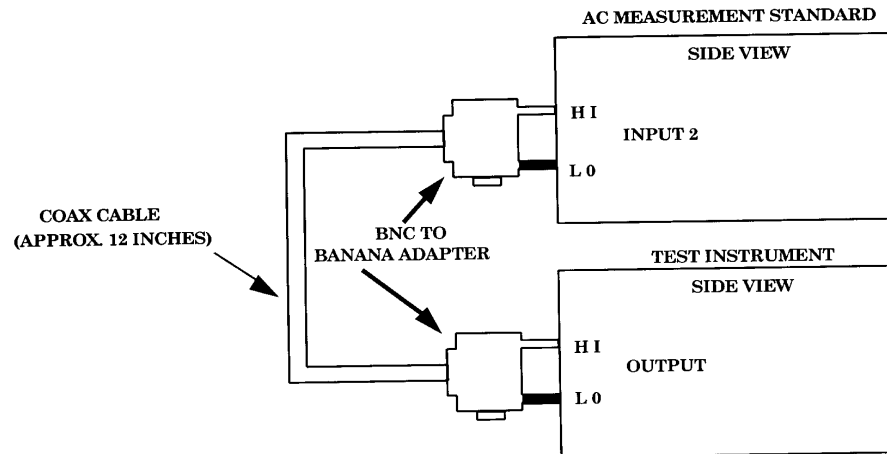

Figure 10. Ac voltage (2 mV through 1000 V).
(1) Place ac measurement standard on top of TI and connect equipment as shown in figure 10. Press **INPUT 2** pushbutton on ac measurement standard.